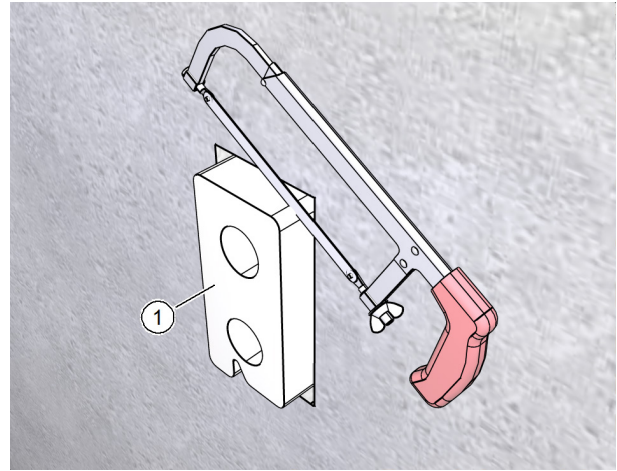
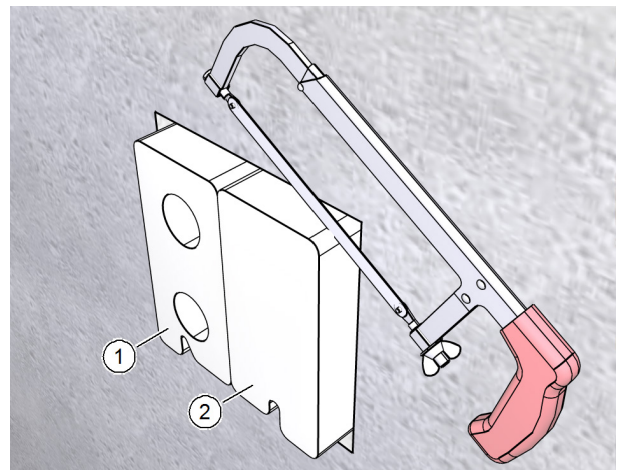

Fig. 20: Aligning the wall box **without** filler piece
Fig. 21: Aligning the wall box **with** filler piece
- ▶ Use a Styrofoam saw to cut off the excess wall box (item 1 in Fig. 20 and Fig. 21) and filler piece, if necessary (item 2 in Fig. 21), so that they are flush with the solid wall or any insulation.